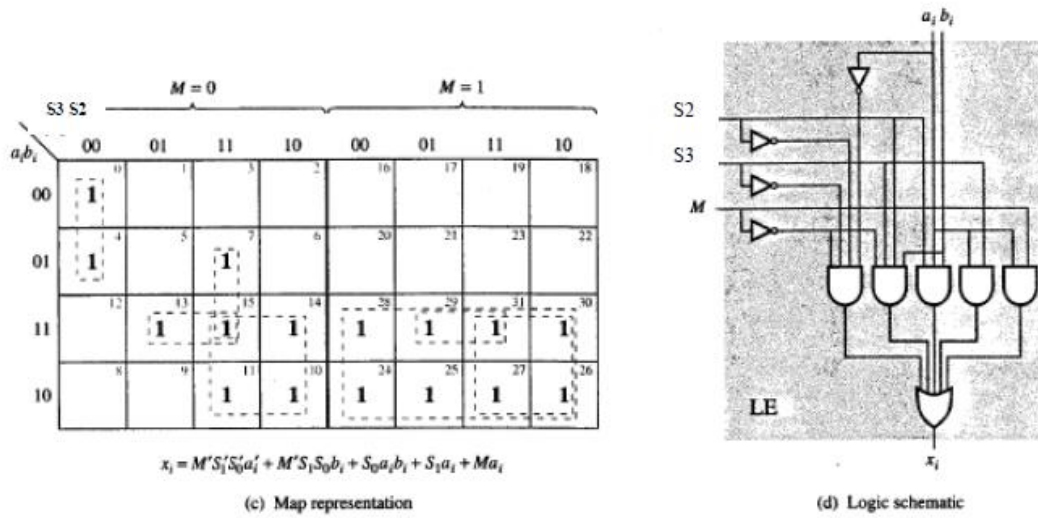

Figure 6. Derivation of logic for the Logic Extender (LE).
The logic in Figure 5 makes up the Arithmetic Extender (AE) shown in Figure 4 – the little bit of extra logic added between the input  $B$  to the ALU and the input  $Y$  to the adder. Similar operations must be performed on the input  $A$  using what is called a Logic Extender (LE – Figure 4). Logic for the Logic Extender is shown in Figure 6. It allows you to perform the logic operations